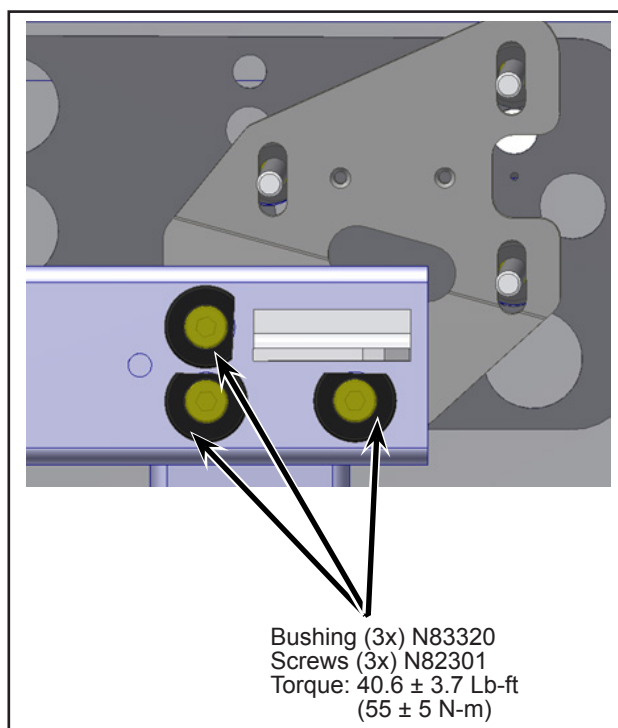

Figure 19 - Installation of Bushings and Screws
- 1.22. Apply thread locker to screws (3x) N82301. Install bushings (3x) N83320 and torque as shown (see Figure 19).